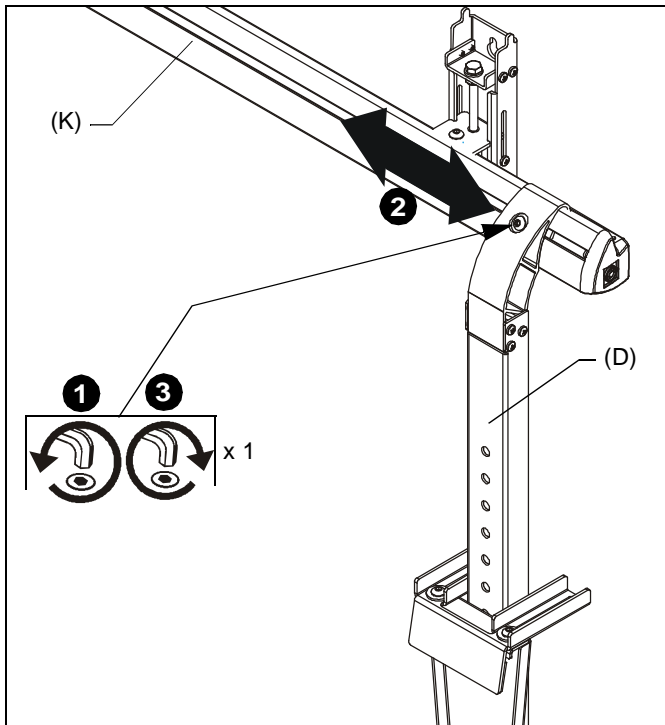

Figure 9
1. Loosen one button head cap screw at top of upright assembly (D). (See Figure 9)
2. Slide upright assembly left or right on wall assembly (K), as necessary. (See Figure 9)
3. Tighten button head cap screw to fasten upright assembly into place. (See Figure 9)